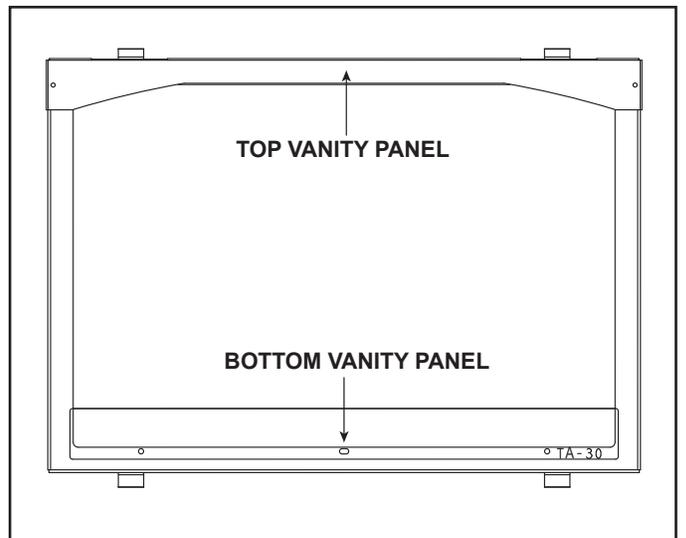

Figure 5. Vanity Panel - Tuscan Arch Front
2. Insert the bottom vanity panel between the glass frame and the glass at the bottom of the appliance as shown in Figure 5.
3. Position top vanity panel as shown in Figure 5.